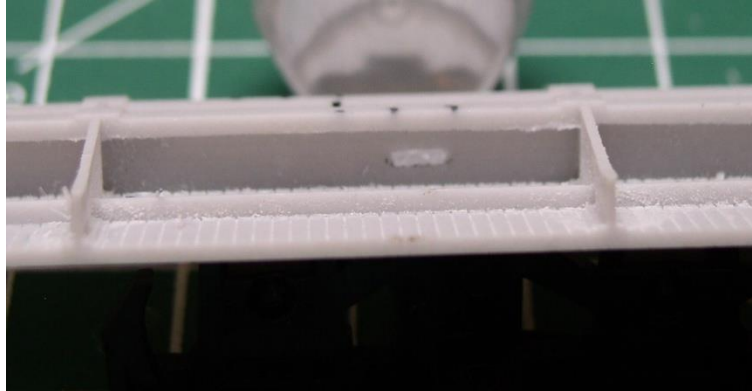

Figure U3
4. Push the T-Pin into the Centre Sill along the lines you have made for the slots to make indents to help you drill. Use a 0.034" drill in a pin vise to drill out holes along those lines. Slow work with a hand held pin vice works for us. We twist the drill first to get the hole started in the right place. Carve out the remaining material between the holes with an XACTO® No. 11 Classic Fine Point blade to create the slots. See Figure U3.